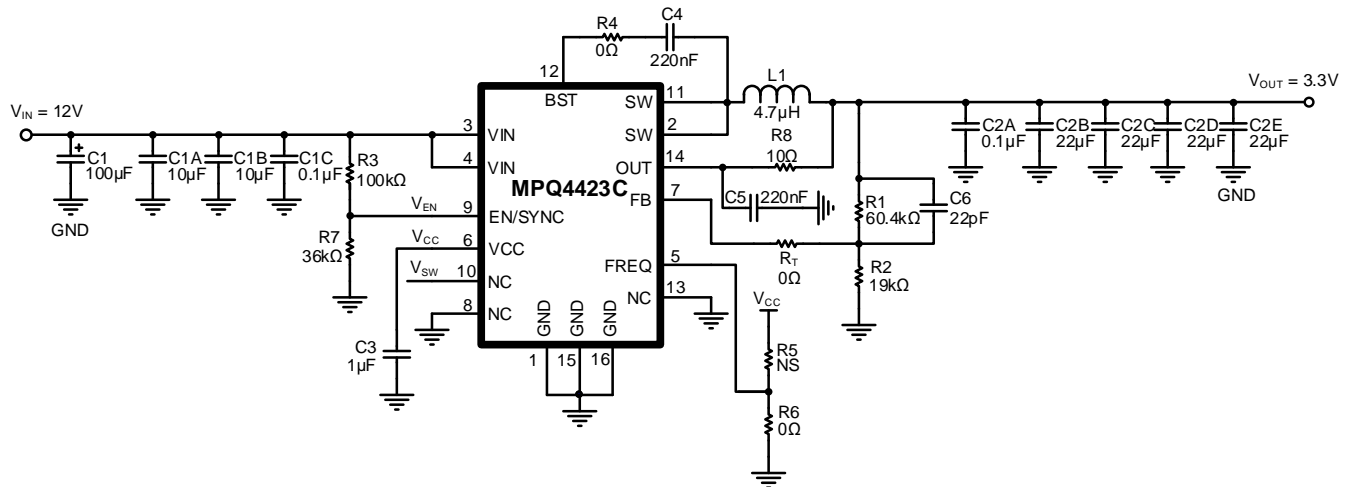

**Figure 9: Typical Application Circuit ( $V_{IN} = 12V$ ,  $V_{OUT} = 5V$ ,  $I_{OUT} = 6A$ ,  $f_{SW} = 420kHz$  with FSS)**
- 11) The recommended PCB layout is based on the typical application circuit with a 5V  $V_{OUT}$ , 6A  $I_{OUT}$ , and 420kHz  $f_{SW}$  with FSS (see Figure 9 on page 19).